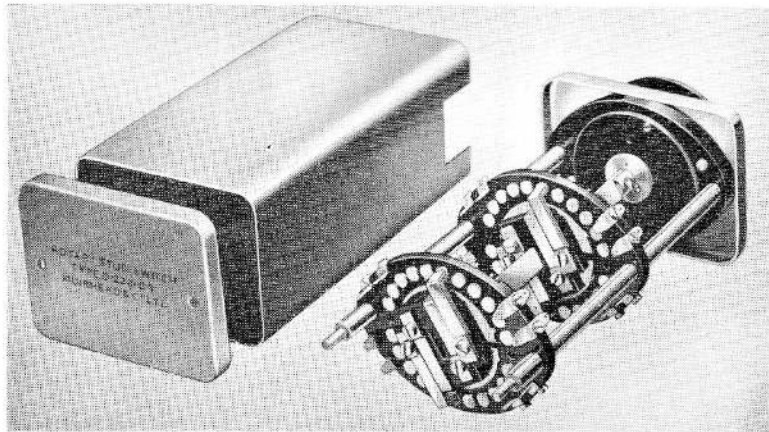

Fig. 1. Switch, Type D-222-C/1
1. This range comprises of rotary switches with up to eight poles and a maximum of 24 studs per pole. A general description is given in this chapter and Type D-222-C/1 is shown in fig. 1 as a typical switch; details of individual types are given in Appendix 1 to this chapter.